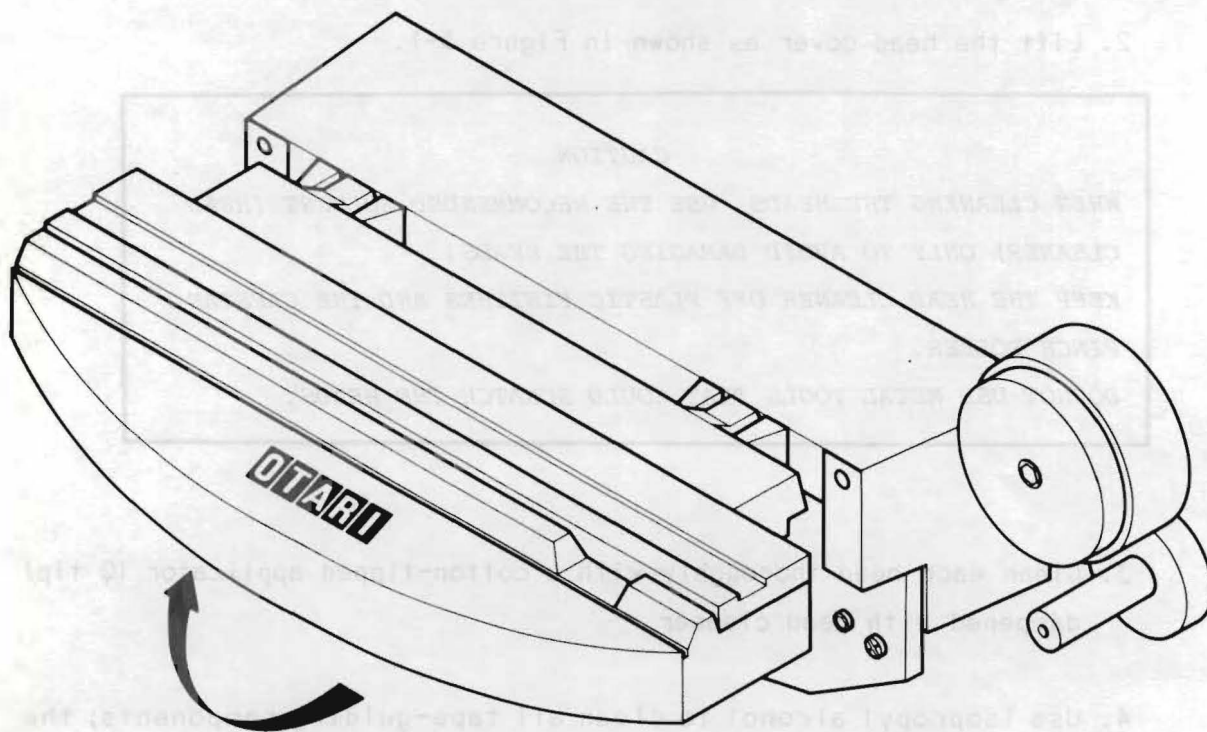

Figure 5-1 Lifting the Head Cover
2. Lift the head cover as shown in Figure 5-1.